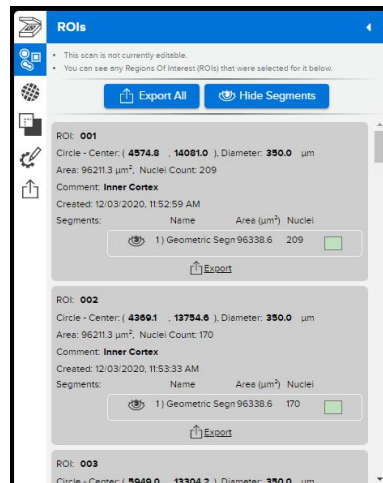

Figure 41: Scan Workspace ROIs Menu with segments
- Open the **ROIs menu** (see Figure 41) to see the transferred ROIs. You may adjust these or add additional ROIs.